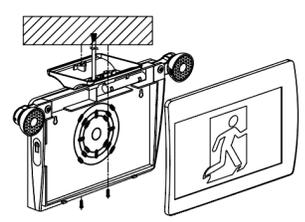

Fig. 10
- c) Connect canopy to junction box mounting plate (Fig. 10).